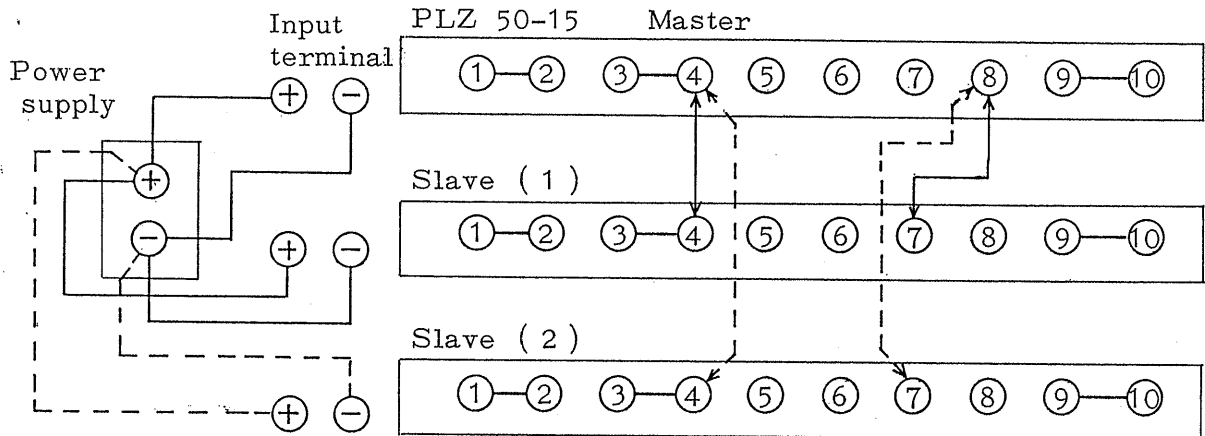

Fig. 12
- 1) Connect two or more than three MODEL PLZ 50-15s on their terminal plate as Fig. 12.
* Connect the lead wires from a power source to each instrument directly as shown in Fig.12.